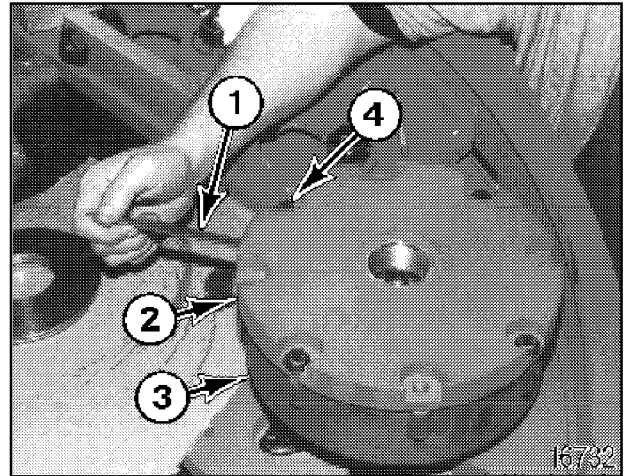

Figure 22
16. Using a feeler gauge (1, Figure 22), measure gap between cover (2) and housing (3) beside each bolt (4).
19. Remove four bolts (4, Figure 22) and clutch housing cover (2) from clutch housing (3).
20. Remove "Circle Slip Clutch Gauge Tool" (1, Figure 19) from clutch housing (3, Figure 22).